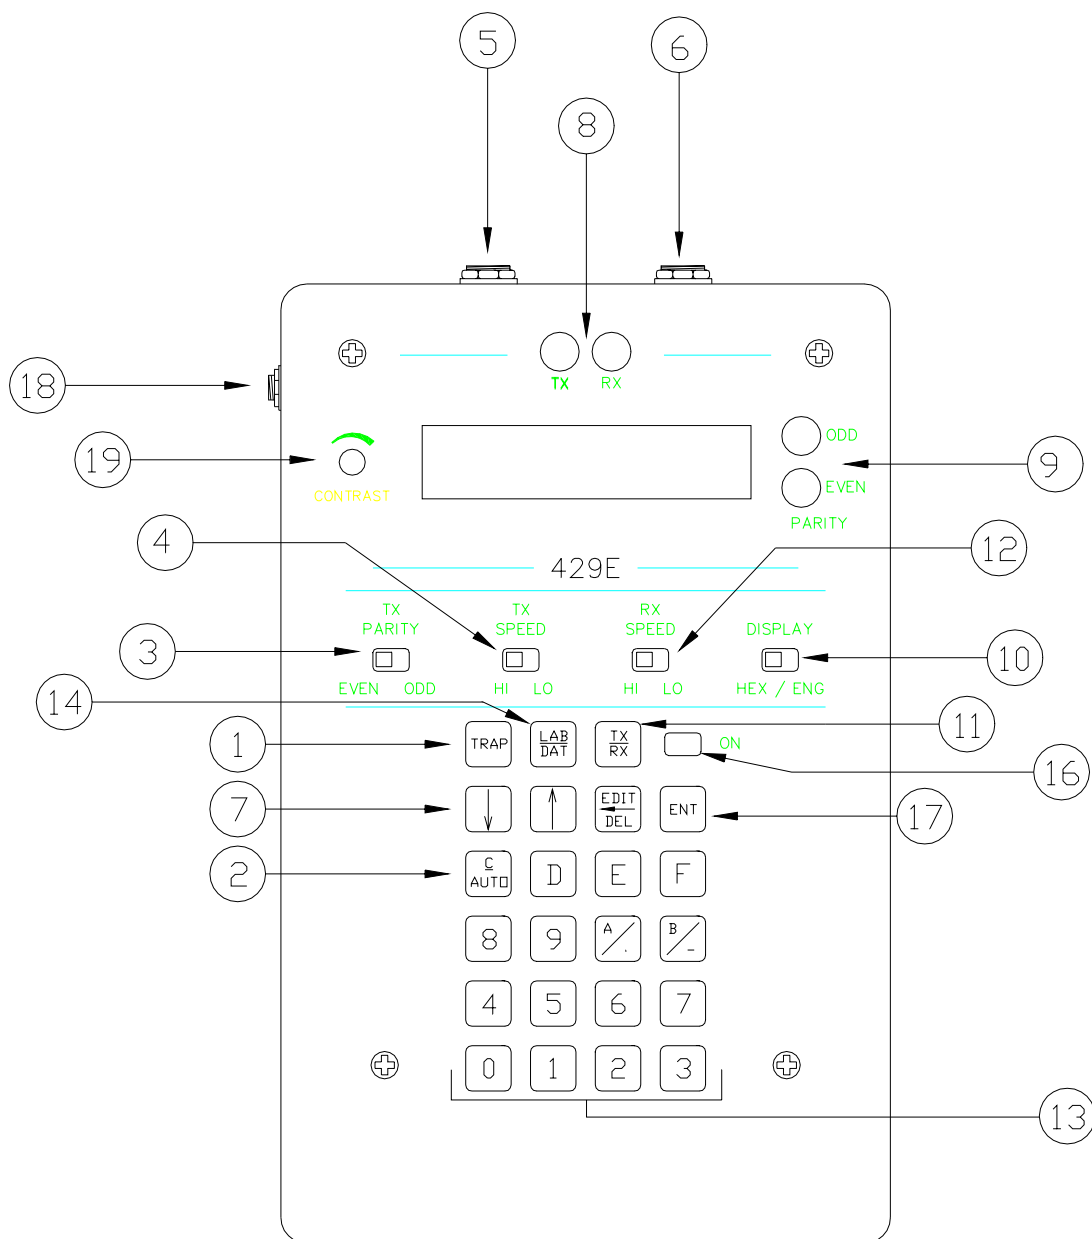

Fig. 3-1: Controls and Indicators
3.2.1 429E CONTROLS AND INDICATORS (Figure 3-1)